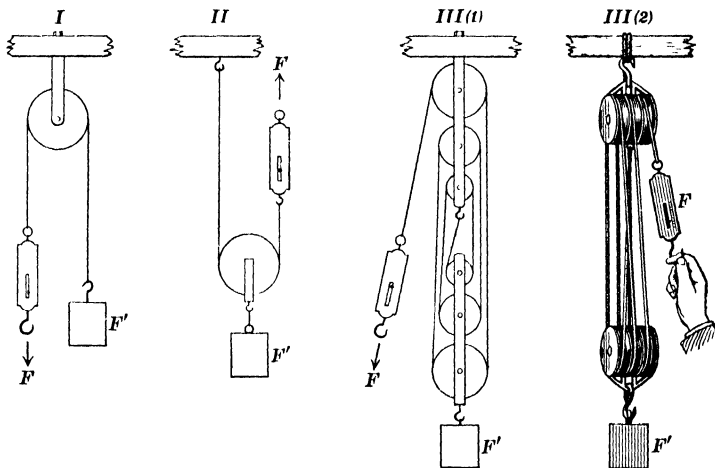

FIG 35
**I The single fixed pulley.** With a piece of fish line or common cord hang a weight  $F'$  (the resistance) of about 1 or 2 kg over the pulley, as shown in *I* (Fig 35)
**II The single movable pulley** Take a set of observations similar to those of I, (a) and I, (b), using the pulley as arranged in *II* (Fig 35). In this case, however, do not add the weight of the balance to the balance reading to get  $F'$  (down) or  $F'$  (up). Add the weight of the pulley to that of the mass lifted, to get  $F'$ .
**III** Using a block and tackle similar to that shown in *III (1)* or *III (2)* of Fig 35, make with its aid observations and computations like those in I.
**IV** Hang a small weight, say 100 g, on the free end of the string of *III (1)* at  $F'$  (Fig 35), and with the hand pull down at  $F'$  instead of using the weight  $F'$ . Is the mechanical advantage now equal to the number of strands  $n$  leaving the movable pulley, or is it  $\frac{1}{n}$ ?